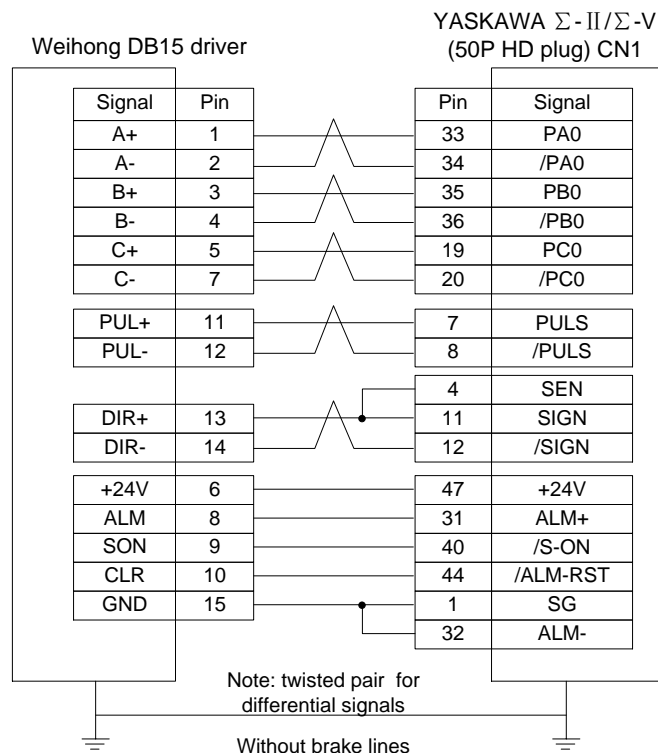
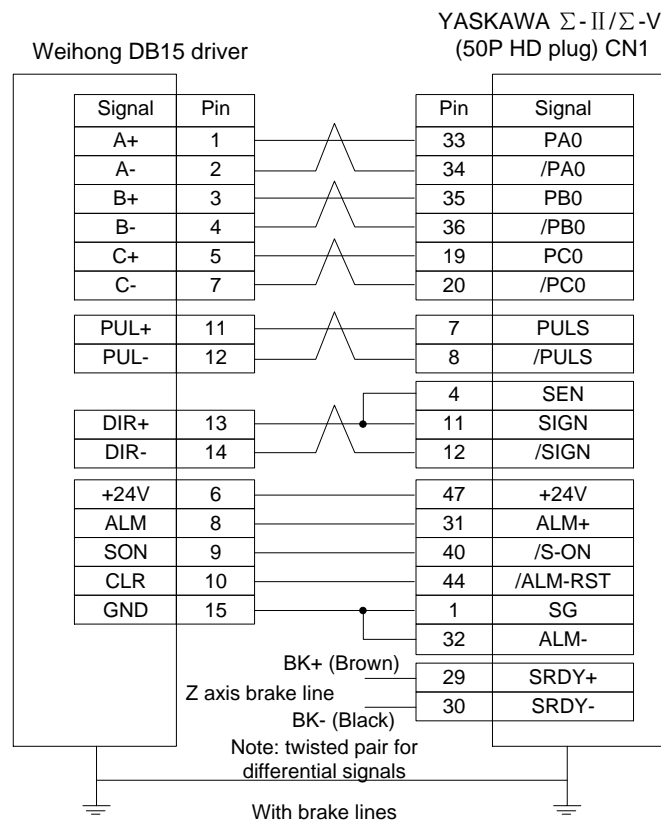

Fig. 6-7 Wiring diagram of absolute encoder (without brake lines)
Fig. 6-8 Wiring diagram of absolute encoder (with brake lines)
- 2) In terms of wiring between the controller with absolute encoder and the driver, pulse positive direction signal DIR+ can be used to control SEN signal. On basis of wiring of general incremental encoder driver, make short-circuit between pin 4 (SEN) and pin 11 (SIGN) to save another pin of +5V and simplify the wiring. See Fig. 6-7 and Fig. 6-8.